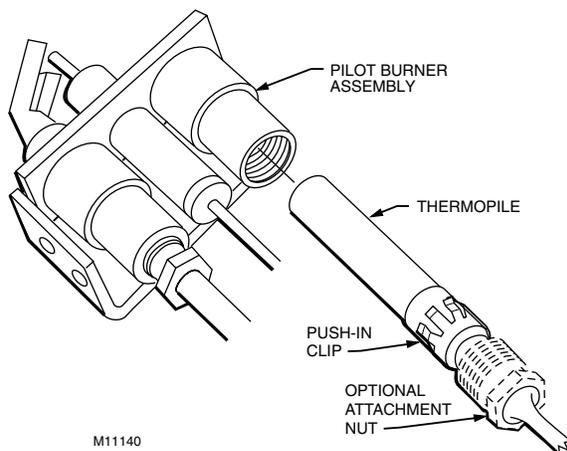

Fig. 20. Installing thermocouple or thermopile.
1. Insert the thermocouple or thermopile tip into the hole or barrel provided beneath the pilot burner. See Fig. 20 and 21.